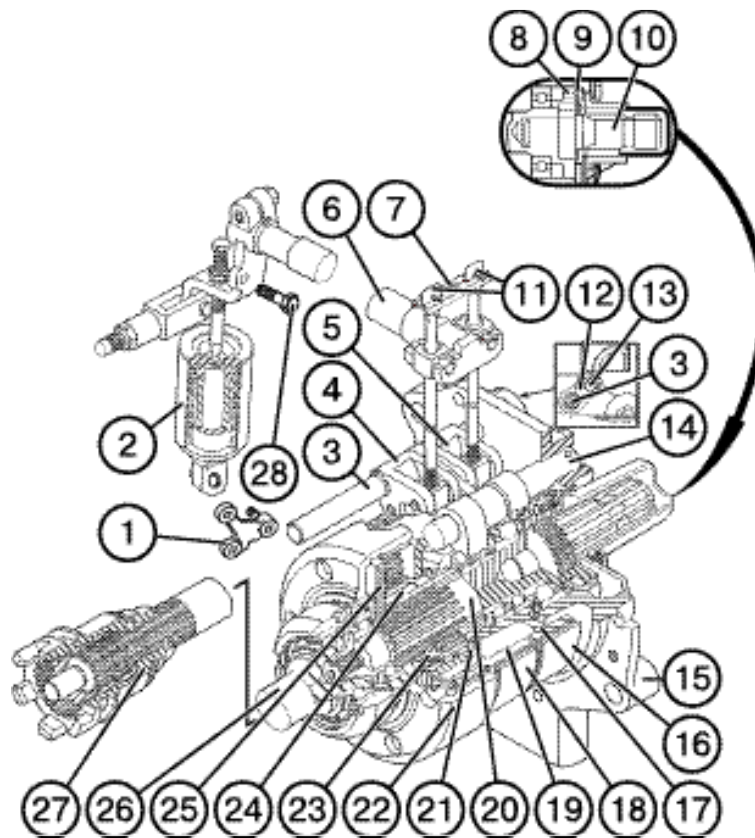
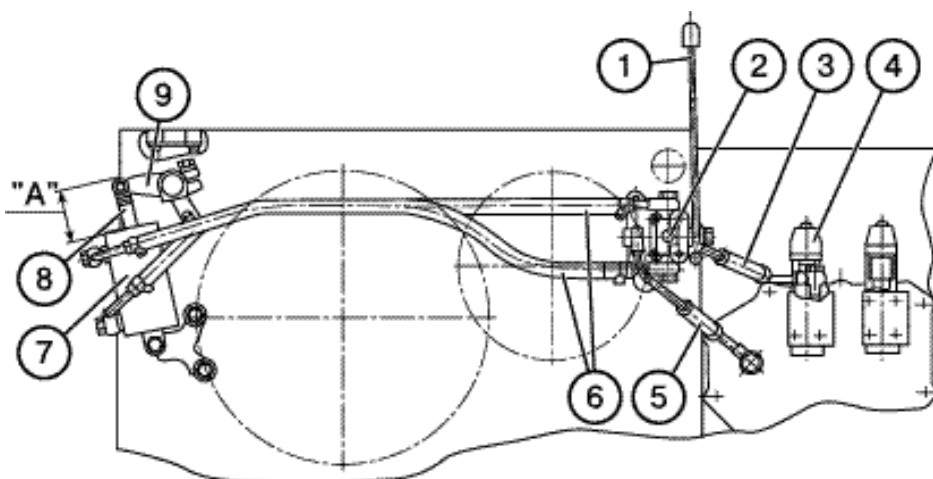

Fig. E-22. Rear PTO epicyclic reduction gear:
Fig. E-23. Rear PTO control mechanism:
The **independent drive** is provided from the bearing disk of the clutch via a two-speed PTO drive reduction gear, inner GB shaft (18) (Fig. E-14), drive shifting clutch (27) (Fig. E-22) onto the crown gear shaft (26) of the PTO epicyclical reduction gear.
The tractor is equipped with a hydroficated control mechanism of the rear PTO (Fig. E-23). This mechanism consists of a control cock (2) in assembly with tie-rod (1), hydraulic cylinder (7), which is connected to control shaft (6) (Fig. E-22), and oil pipelines (3), (5) and (6) (Fig. E-23). The pressure oil pipeline (3) connects cock (2) with the FDA control cock. The control pipeline (6) communicates the cock (2) with hydraulic cylinder (7).